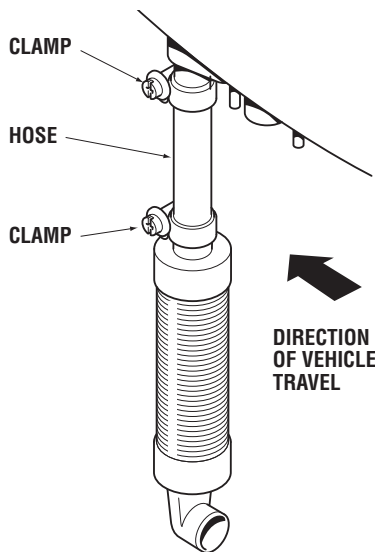

Figure 8. Air Intake Silencer Extension.
3. For extra thick floors or additional insulation (A2 heaters only), cut a 2" (50 mm) length of 5/8" (15mm) inside diameter heater hose and attach to the heater combustion air intake with a hose clamp (refer to figure 8).